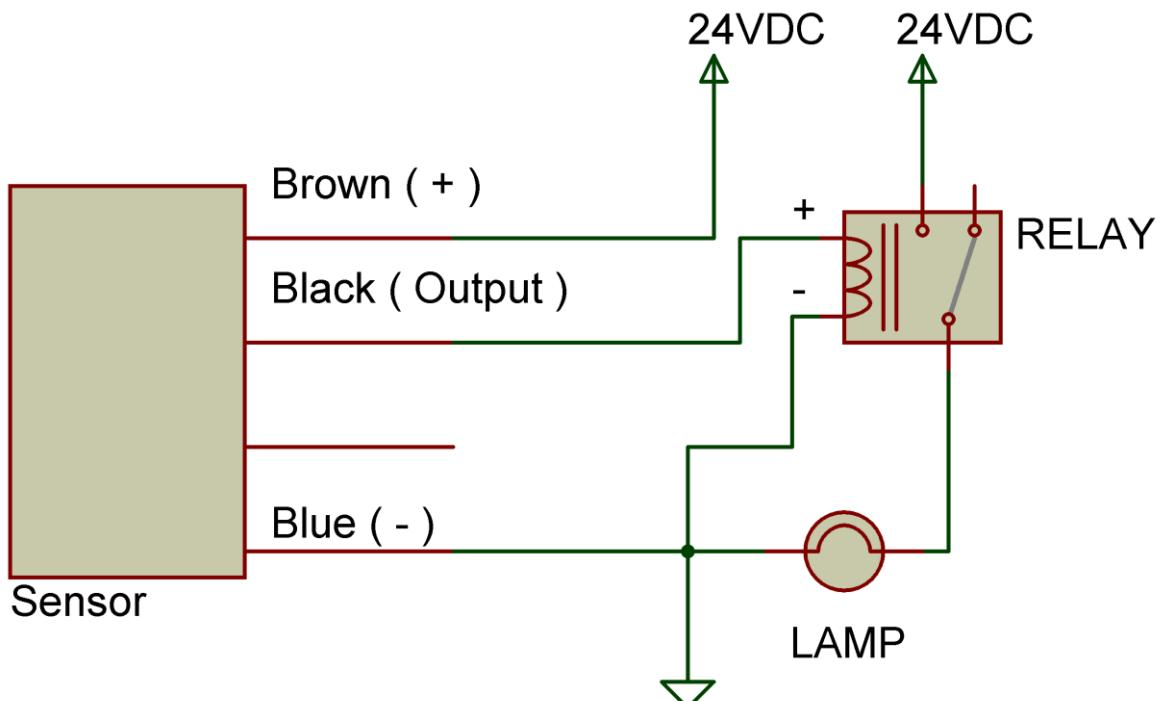

Figure 22: PNP Sensor circuit diagram
1. Make a photoelectric sensor circuit according to the circuit diagram shown in Figure 22.